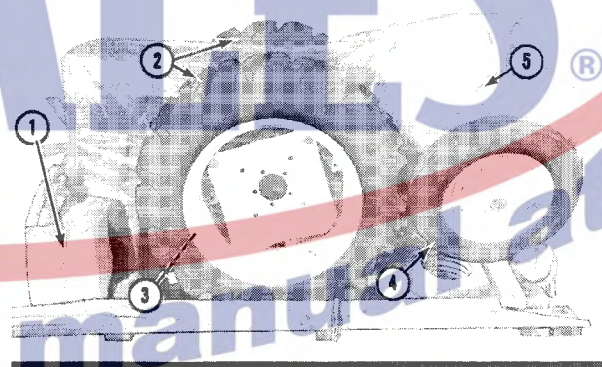

Figure 2
A. Box (1), Figure 2
B. Box (3), Figure 2